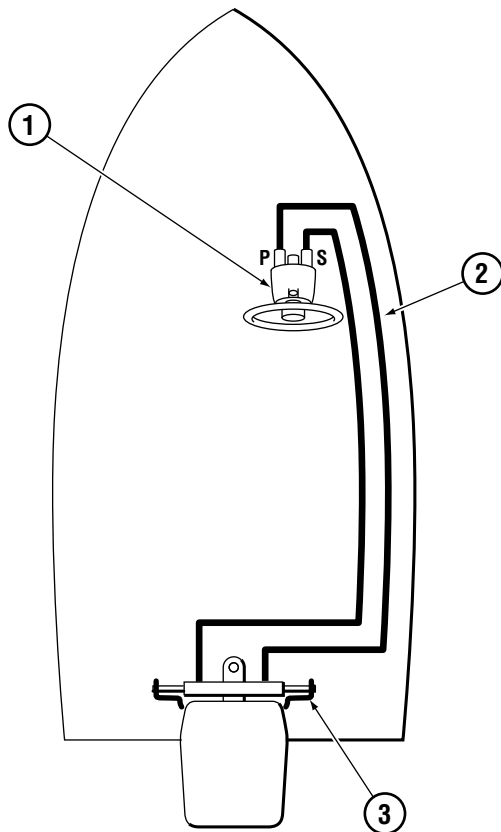

Figure 22.
1. See figures 22 through 25 on the following pages to locate your plumbing diagrams.